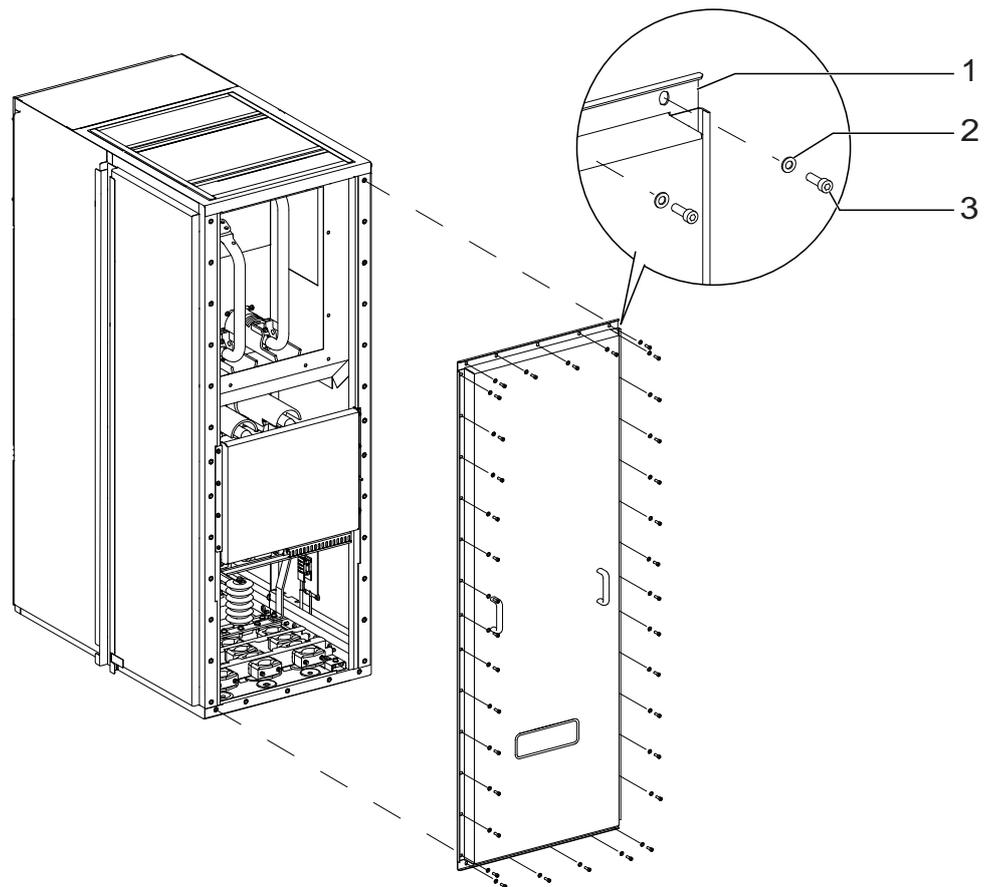

Figure 65
1. Unscrew the M8 x 25 screws (3) and remove the M8 plain washers (2) by using an Allen key. Refer to Figure 54 and Figure 65.
2. Remove the rear cover (1).